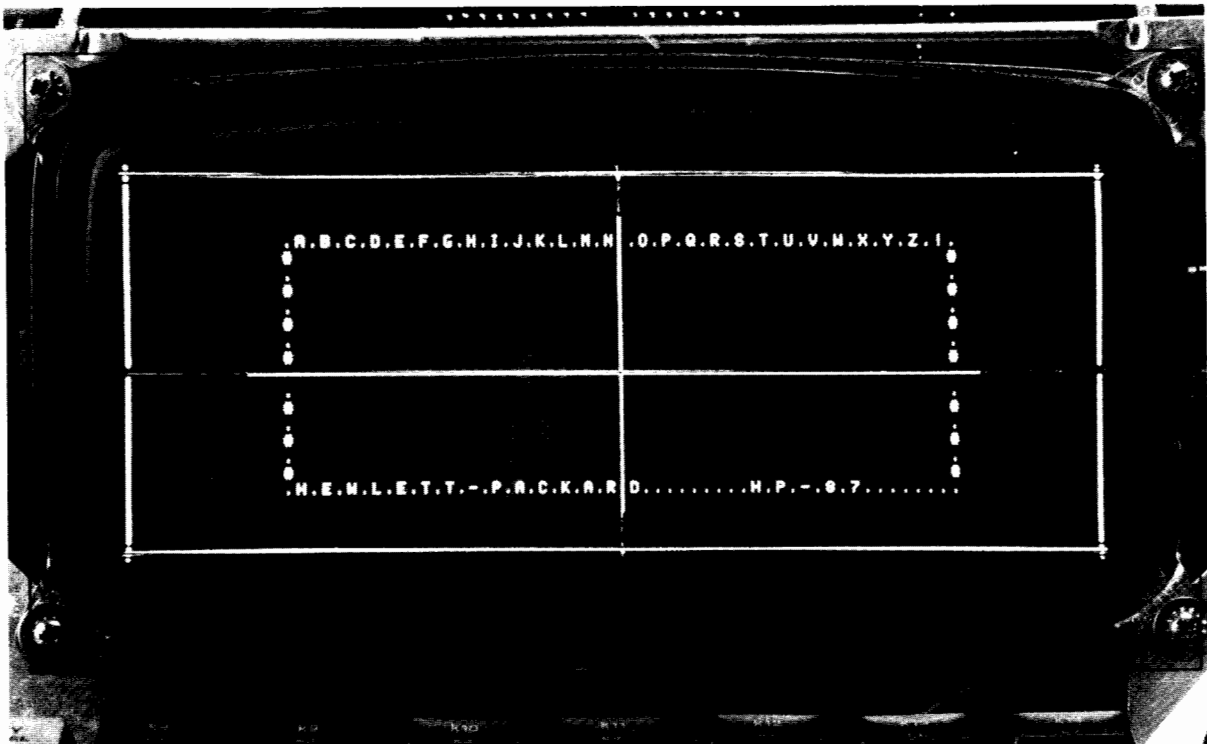

Figure 2-15. CRT Test Pattern Overlay in Position
- b. Adjust the position of the overlay until the wide outer lines are parallel to, and centered both horizontally and vertically between the edges of the screen. The proper position is shown in figure 2-15.